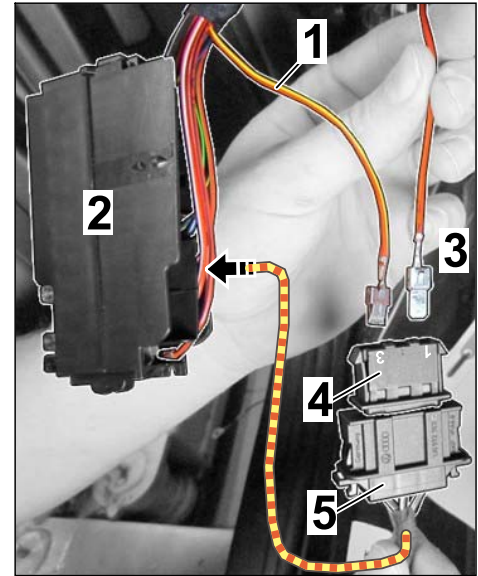

Figure 32
2.6.4 Assign plug socket (3-pin) as follows (⇒ *Figure 32*):